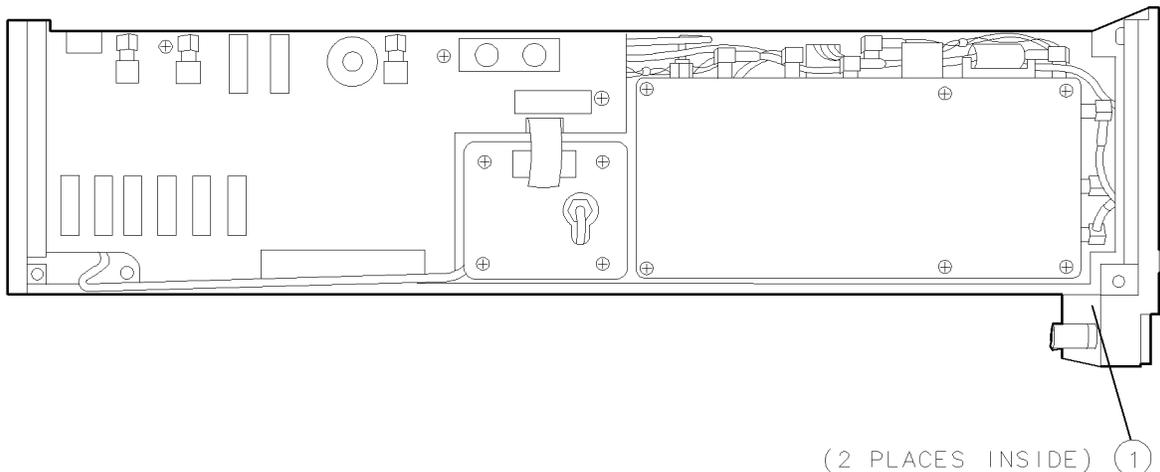

Figure 9-19. A9 Front Panel Removal/Replacement
2. Remove two 4 mm cap-screws ① securing the front frame and A9 front panel to the module. See Figure 9-19.